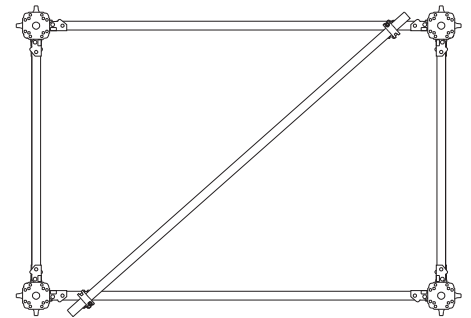

Fig. 30
- For towers with heights > 7.0 m, a horizontal diagonal is to be attached to the MRK frames by means of swivel couplings at around half the tower height to ensure safeguarding the cross-sectional form. (Fig. 30)